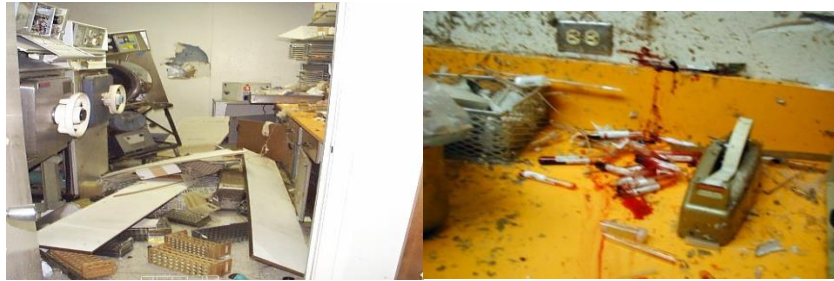

Figure 5.19:: Autoclave explosion
- 3 .How explosion of autoclave will be occurred Fig.5.19?